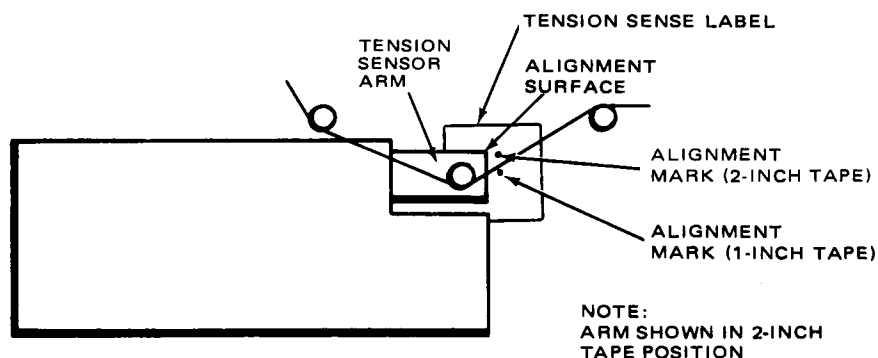

Figure 5-6. Positioning Tension Sensor Arm
2. While holding the takeup reel to restrain movement, apply power to the recorder/reproducer and momentarily depress the LIFT DEFEAT switch to disengage the reel brakes. Adjust the stop supply tension potentiometer (R3) until the alignment surface of the tension sensor arm (Figure 5-6) is aligned with the one-inch or two-inch alignment mark, according to tape width on the tension sense label.
3. Adjust the play supply potentiometer R2 (for two-inch tape) or R10 (for one-inch tape) until the tension sensor arm aligns with the alignment mark for the appropriate tape size on the tension sense label under the tension sensor arm (Figure 5-6).
2. Depress the REWIND pushbutton. After the tape has accelerated to maximum speed, adjust rewind takeup potentiometer R4 such that the tension sensor arm (Figure 5-6) aligns with the alignment mark on the tension sense label for the appropriate tape size.